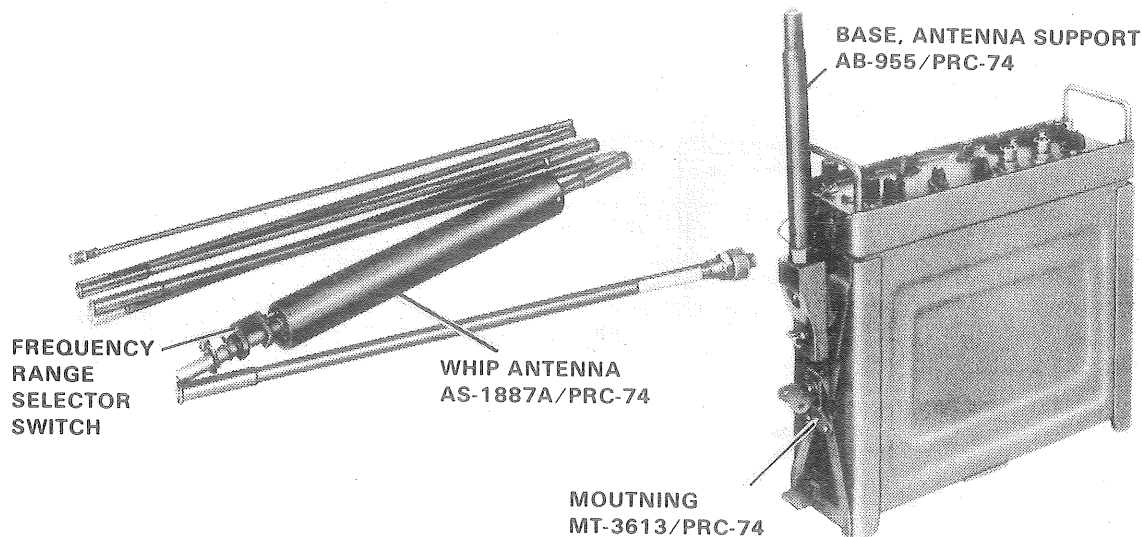

Figure 2. Radio AN/PRC-74 with antenna.
- e. Attach Whip Antenna Mounting Bracket MT-3613/PRC-74 supplied with Radio Set AN/PRC-74 as shown in figure 2 by performing these procedures:
- (1) Attach whip mounting bracket to side of radio set as shown in figure 2.
- (2) Assemble whip antenna.
- (3) Attach whip antenna to antenna support base and screw antenna support base into whip antenna mounting bracket.
- (4) Set frequency range selector switch (fig 2) located at bottom of antenna loading coil to correspond with operating frequency.